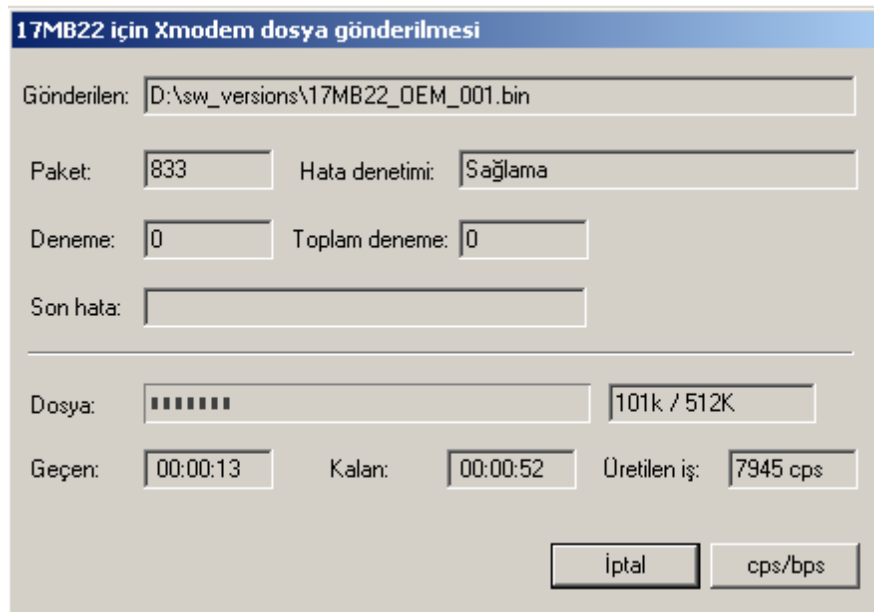
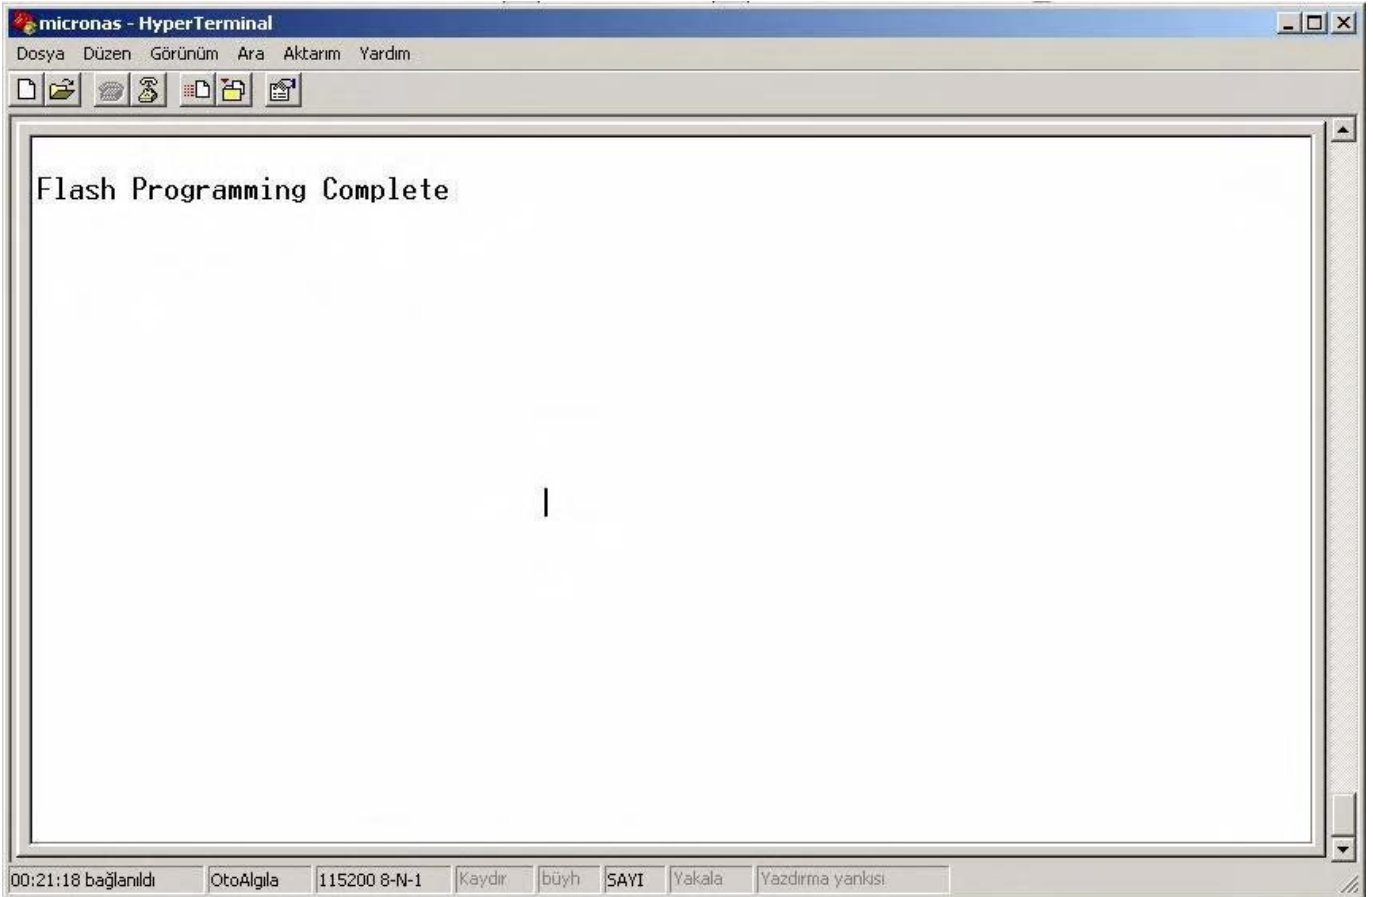

Fig11: Data transfer
Fig12: Flash Programming Complete (End of operation)
- The “Terminal Window” of the PC displays the data transfer (Fig11). When TV starts receiving data from the PC “**Volume-**” button may be released. It needs about 2 minutes to upload the whole software. At the end “Flash Programming Complete” will be displayed at the HyperTerminal window (Fig12).